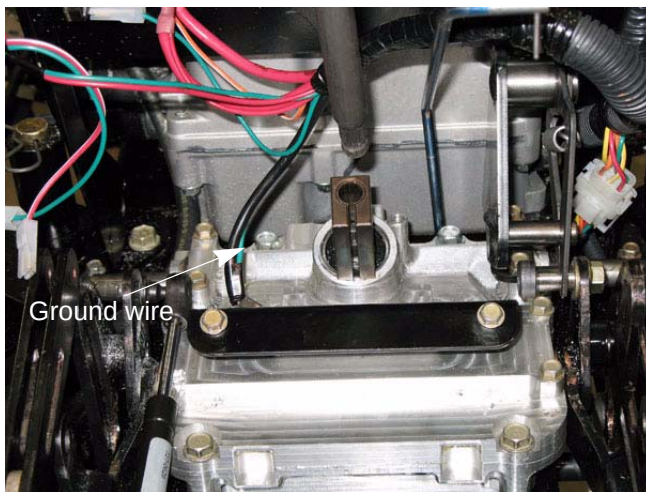

Figure 6.25
7. Remove the ground wire. See Figure 6.25.